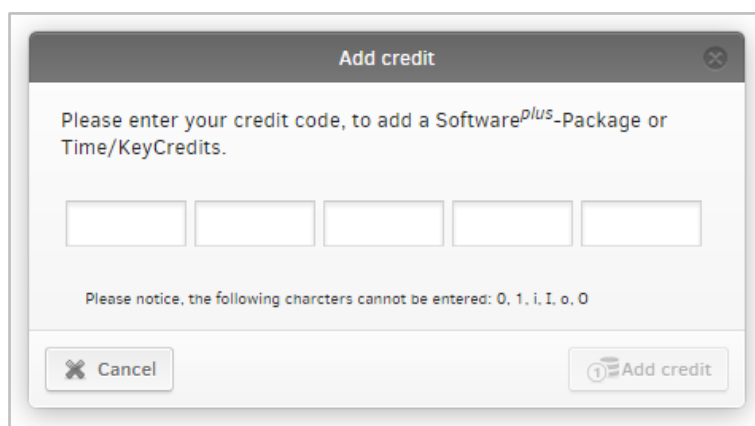

Figure 49: Topping up credit
- Enter the code in the "Add credit" (Figure 49: Topping up credit) application window.